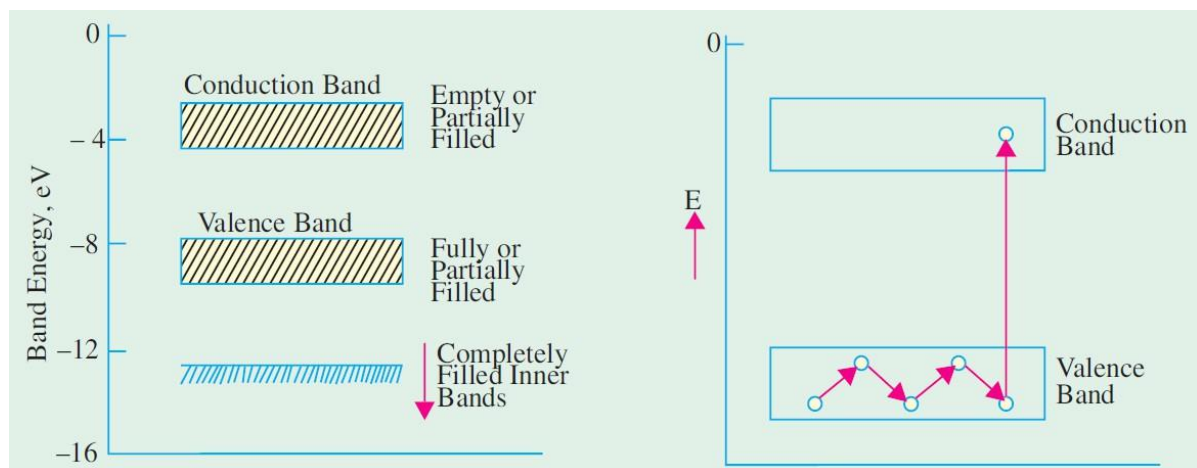

Figure 1. Energy Bands in Materials
- This mechanism is shown in Figure 1